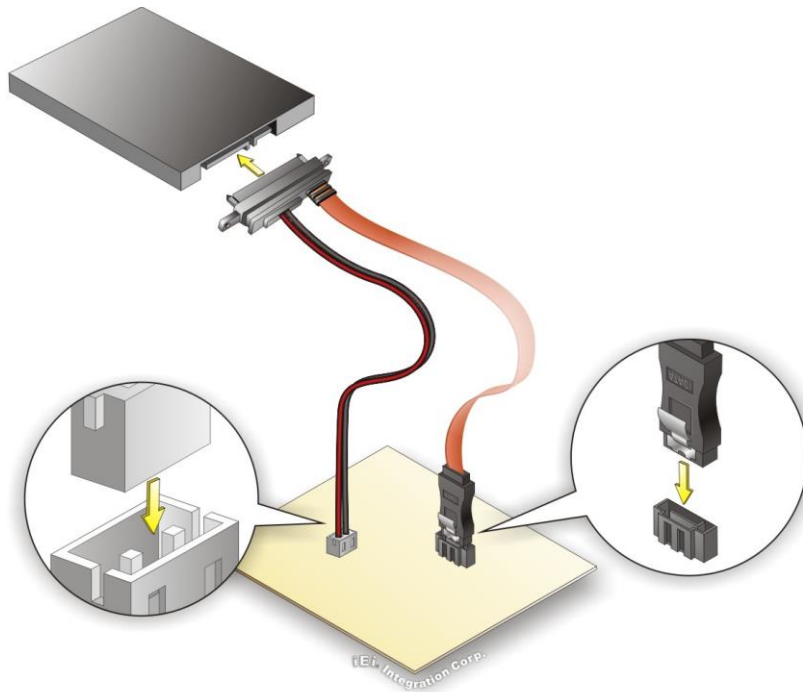

Figure 4-13: SATA Drive Cable Connection
- Step 2:** **Insert the cable connector.** Insert the cable connector into the on-board SATA drive connector and the SATA power connector. See **Figure 4-13**.
- Step 3:** **Connect the cable to the SATA disk.** Connect the connector on the other end of the cable to the connector at the back of the SATA drive. See **Figure 4-13**.